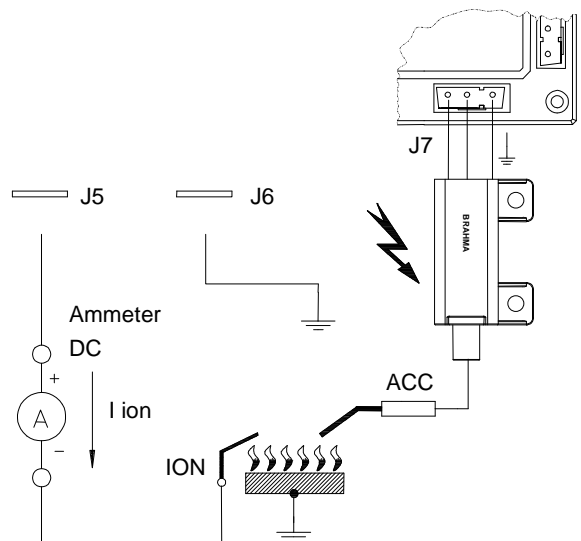
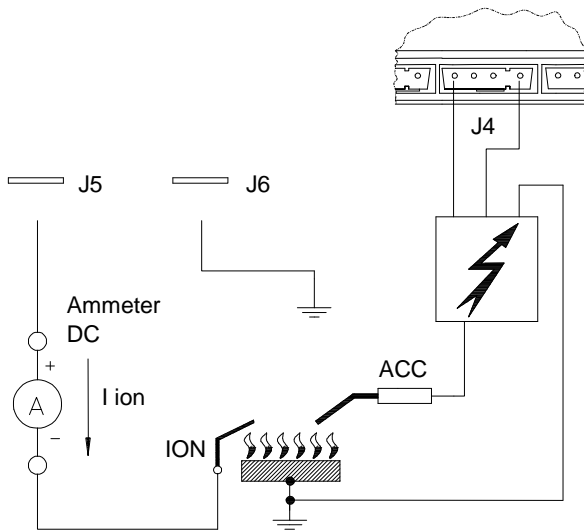

Fig.6 – Flame signal measurement method in “FR” controllers
Fig.7 – Flame signal measurement method in “PR” controllers
- the flame signal level is high enough (see Fig. 6 for the measuring method to be adapted in case of MICROFLAT controllers type FR and Fig. 7 in case of MICROFLAT controllers type PR );